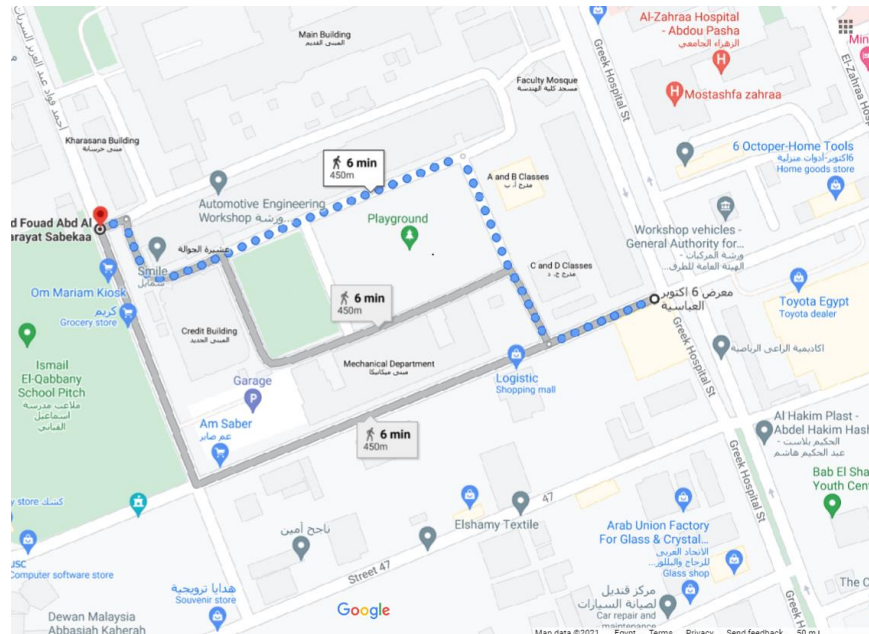

Figure 1: Basline path that you should follow
3. The user should follow the path which is given in Figure1 and walk in non-straight line.